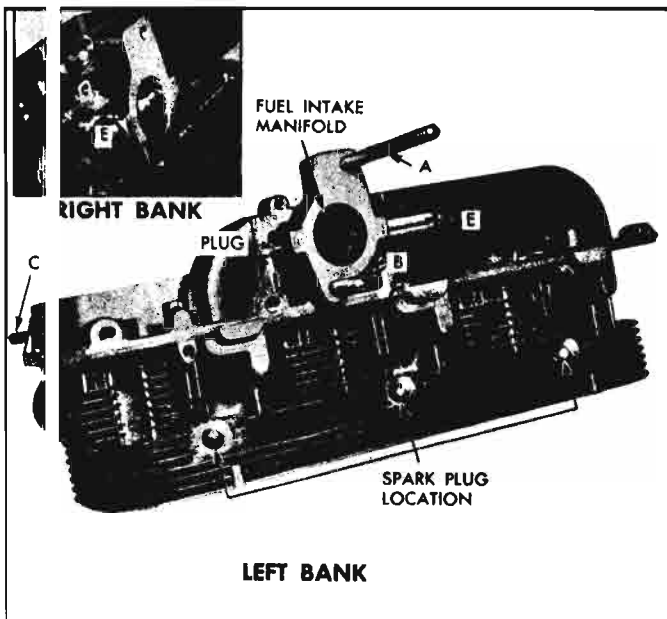

Fig. 6A-60—Carburetor Attaching Studs, and Vacuum Balance Tube
3. If necessary to replace exhaust manifold studs ("C" fig. 6A-60 and 6A-61) coat new stud with anti-seize compound and using Tool J-8354-3 install to a length of $3\frac{1}{2}$ ".
NOTE: Cylinder Heads are identical except for location of vacuum balance tube hose connector "E" which is on one side of carburetor mounting pad on the right bank and the other side on the left bank (fig. 6A-60).
this will hold shim in place for assembly) and place on valve spring seat (fig. 6A-61).
5. Set valve spring in place on shim in cylinder head. Place cap in position and compress valve spring with Tool J-8062 (fig. 6A-62).